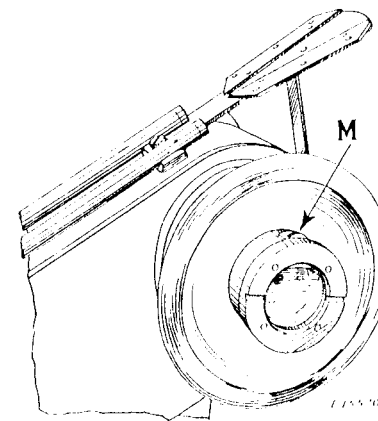

Fig. 5
2. Turn the machine pulley to bring the screw plug **M**, **Fig. 5** to the top, remove this plug and fill the reservoir practically to the top. **THE OIL LEVEL IN THIS RESERVOIR SHOULD NEVER BE ALLOWED**